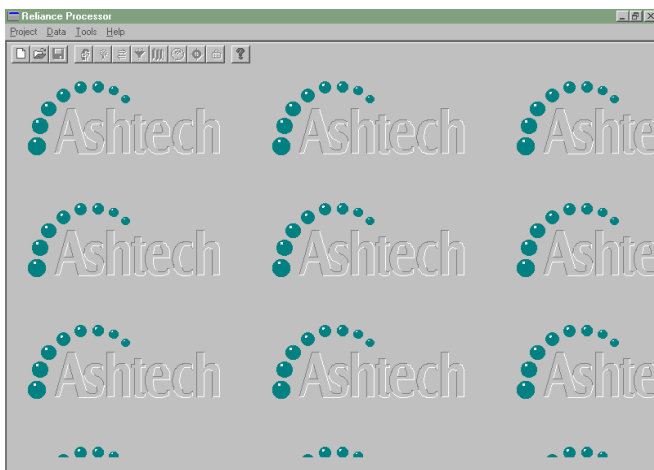

Figure 1. Main screen of Reliance Processor.
3. Switch on the computer (if not already on) and double-click the "Reliance Processor" icon on the desktop. You should see the screen in Figure 1.